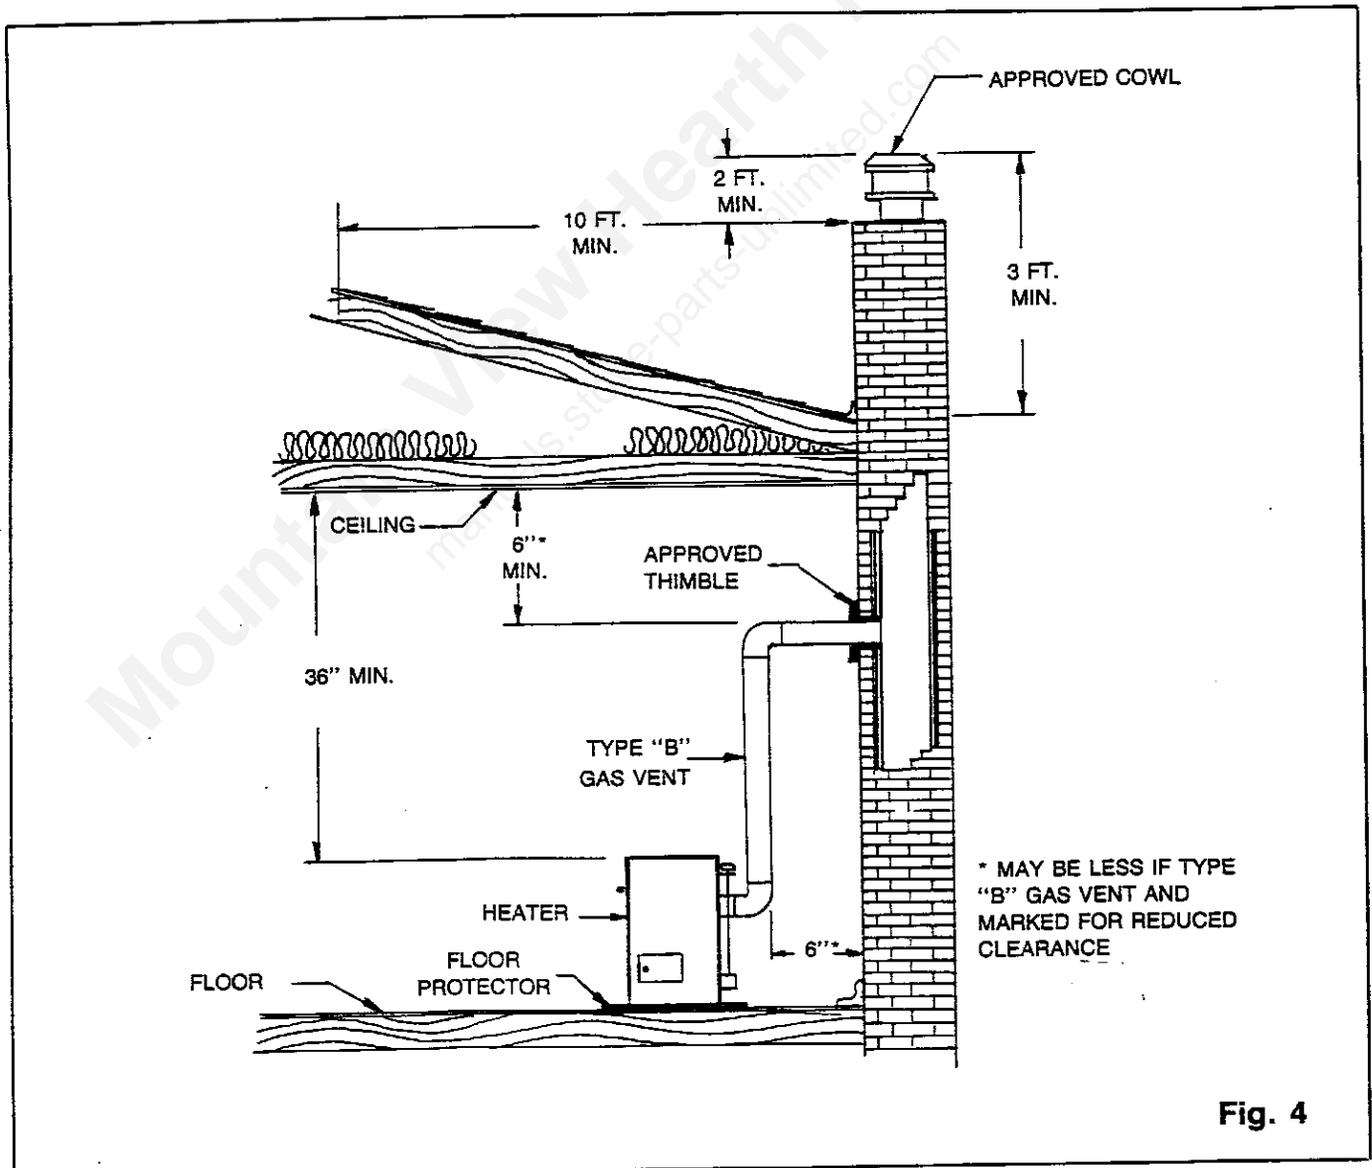

Fig. 4
6. Safe clearances are shown in this drawing. To prevent a home fire, make sure the heater is installed no closer than the distances shown. (See Fig. 4)